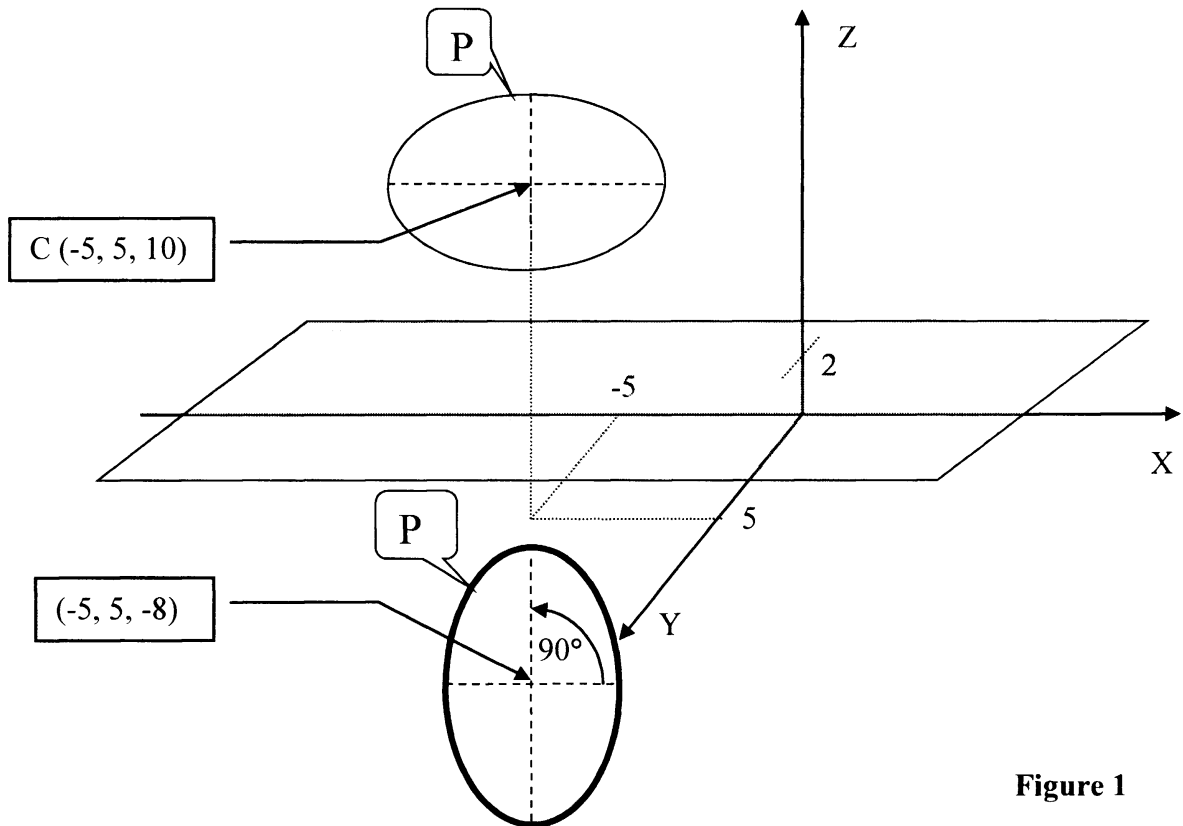

Figure 1
2.1 In figure 1, determine the matrix of each position P^* on ellipse object after rotation 90° on Y-axis and then reflection by XY-plane at $Z=2$. The center of ellipse is $C (-5, 5, 10)$ while $a = 5$, $b = 3$ are the semi- major axis and semi- minor axis, respectively.